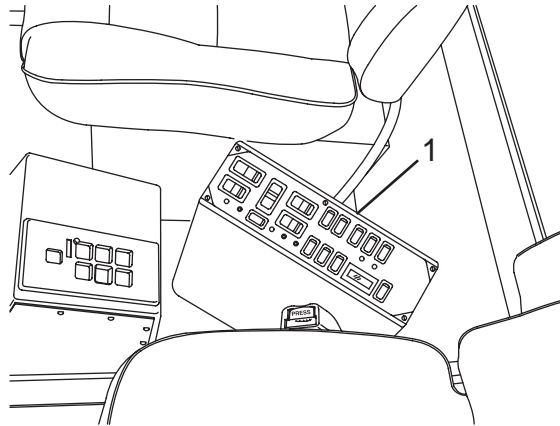

Figure 16
**Cab Control Box Version:** The receiver is located in the control box (cab control box) (Figure 16, Item 1).